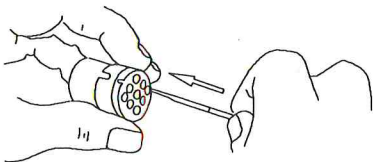

FIG. 2
- Grasp wire behind contact and place into hole from back side, see Fig. 2.